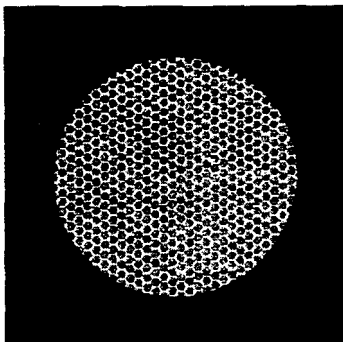

Figure 2-6. Fixed-Pattern Noise (Honeycomb).
g. Fixed-Pattern Noise (Honeycomb). This is usually a blemish characterized by a faint hexagonal pattern throughout the viewing area that most often occurs at high-light levels or when viewing very bright lights (fig. 2-6). This pattern can be seen in every image intensifier if the light level is high enough. This condition is acceptable as long as the pattern does not distract from viewing the image and interferes with the ability to perform the mission or if it still remains when viewing in low-light conditions, in which case, return the NVG to the maintainer for evaluation.